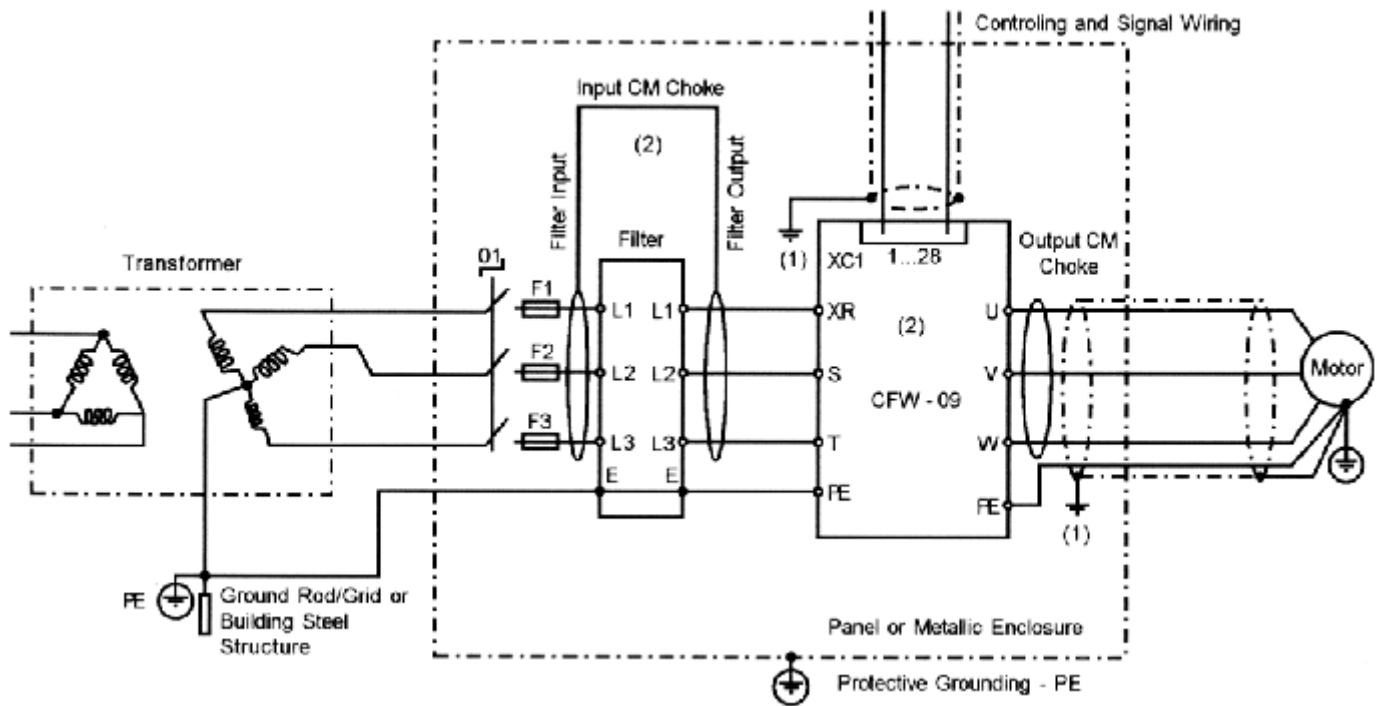

Figure 3.18 - EMC Filters connection
1. Filters as called out on the EMC Filter/Dimension table and connected as recommended in figure 3.18.